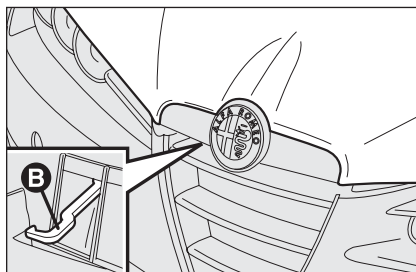

fig. 82
- ☐ keep the lever **B-fig. 82** pulled and raise the bonnet